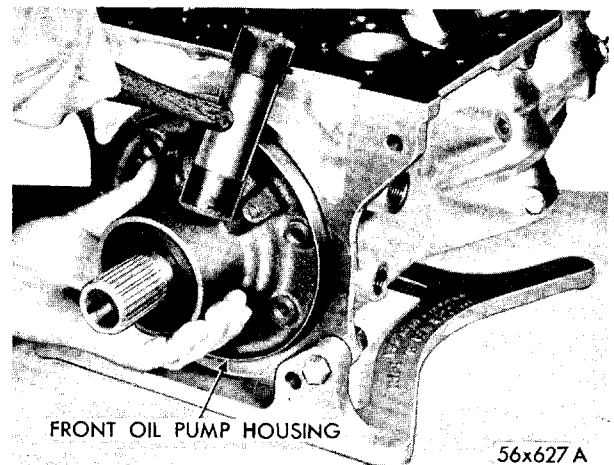

Fig. 51—Removal of Front Oil Pump Housing Assembly
(1) Remove front oil pump drive sleeve (if installed).
(2) Remove the front oil pump screws and washers, (sealing washers, used under bolts, are made from aluminum; discard if damaged).
(3) Remove oil pump housing from transmission case by tapping housing lightly with a soft hammer. Figure 51. **Using dye, mark pump gears in relation to face of oil pump housing for reassembly purposes. DO NOT SCRIBE.**